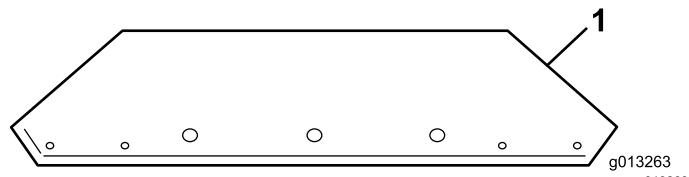

Figure 10
1. Remove the hopper extensions from the box and identify the front and the rear (Figure 10 and Figure 11).